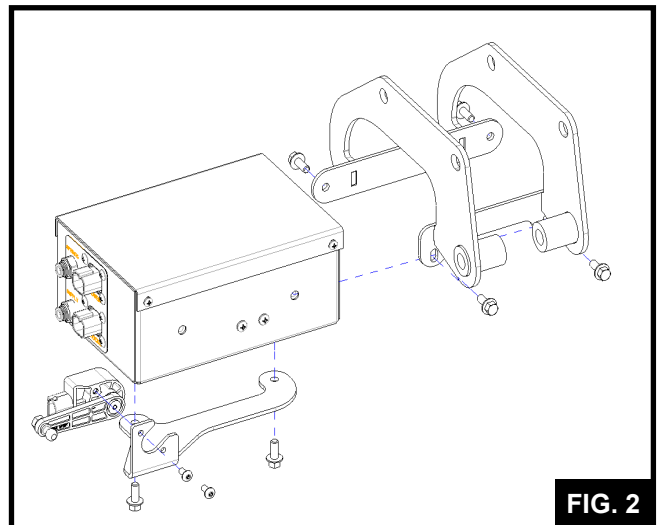

FIG. 2
Mount the control box to the cab bracket using the (4) 1/4 X 5/8 flange head bolts provided (**FIG.2**).
Mount the height control sensor bracket to the control box using the (2) 1/4 X 5/8 flange head bolts provided (**FIG.2**).
Mount the height control sensor to the bracket on the control box using the (2) M5 X10mm screws provided (**FIG.2**).